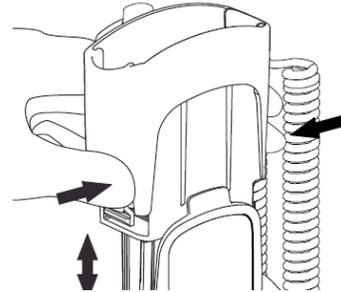

Figure 64: Removing Isolation Chamber
- 1) To remove or replace any isolation temperature Isolation Chamber / Probe assembly, grasp the Isolation Chamber from each side (refer to Figure 64).
- 1) To change Temp Probes, remove the Isolation Chamber as described previously (refer to Figure 64).